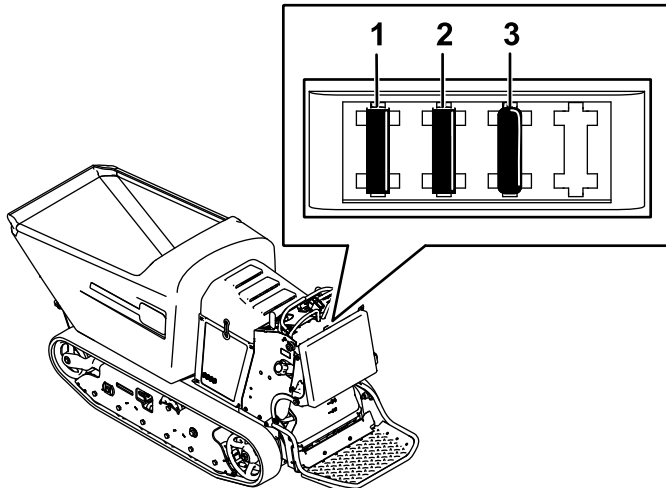

Figure 33
2. Pull out the fuse to remove or replace it (Figure 33).
Note: Ensure that the correct-size fuse is installed (Figure 33).